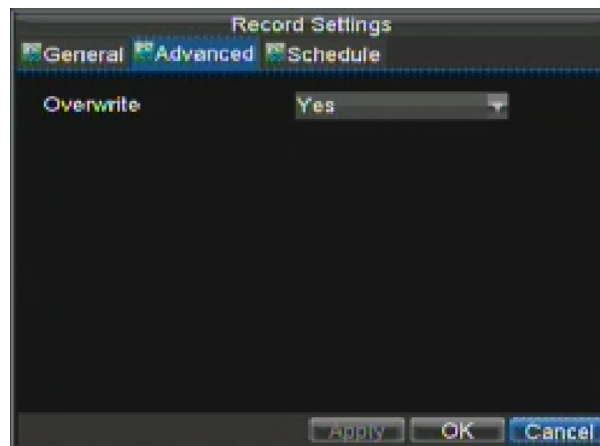

Figure 3. Advanced Record Settings
8. Select the **Advanced** tab, this will open the Advanced settings menu, shown in Figure 3.